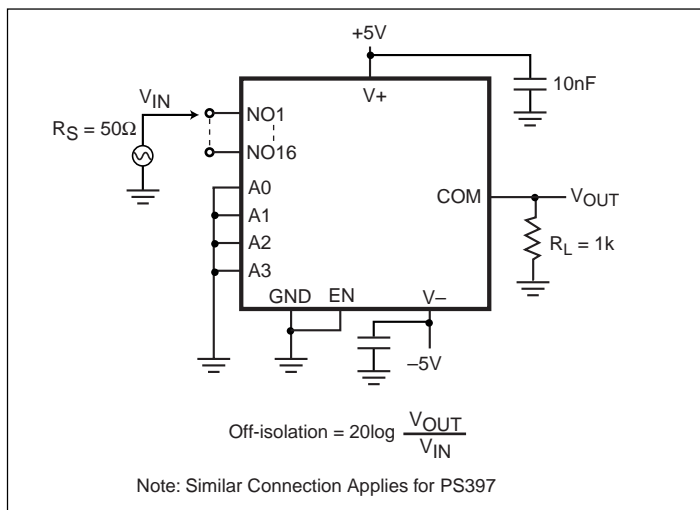

Figure 6. Off-Isolation (V_{ISO})
6. See Figure 6. Off isolation = 20log₁₀ V_{COM}/V_{NC} or V_{NO}, V_{COM} = output, V_{NC} or V_{NO} = input to off switch